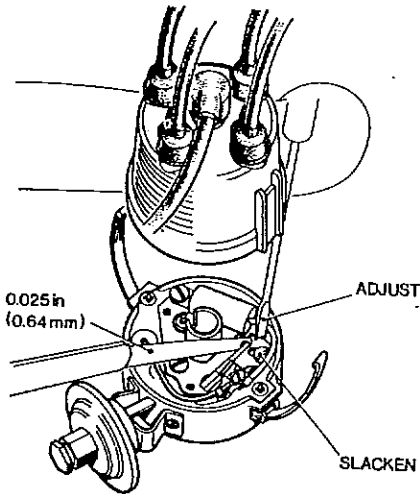

Fig. 22. Contact Breaker Point Adjustment
2. Slacken adjusting screws and ensure that the moving contact breaker arm heel is on the highest point of the cam (fig. 22).